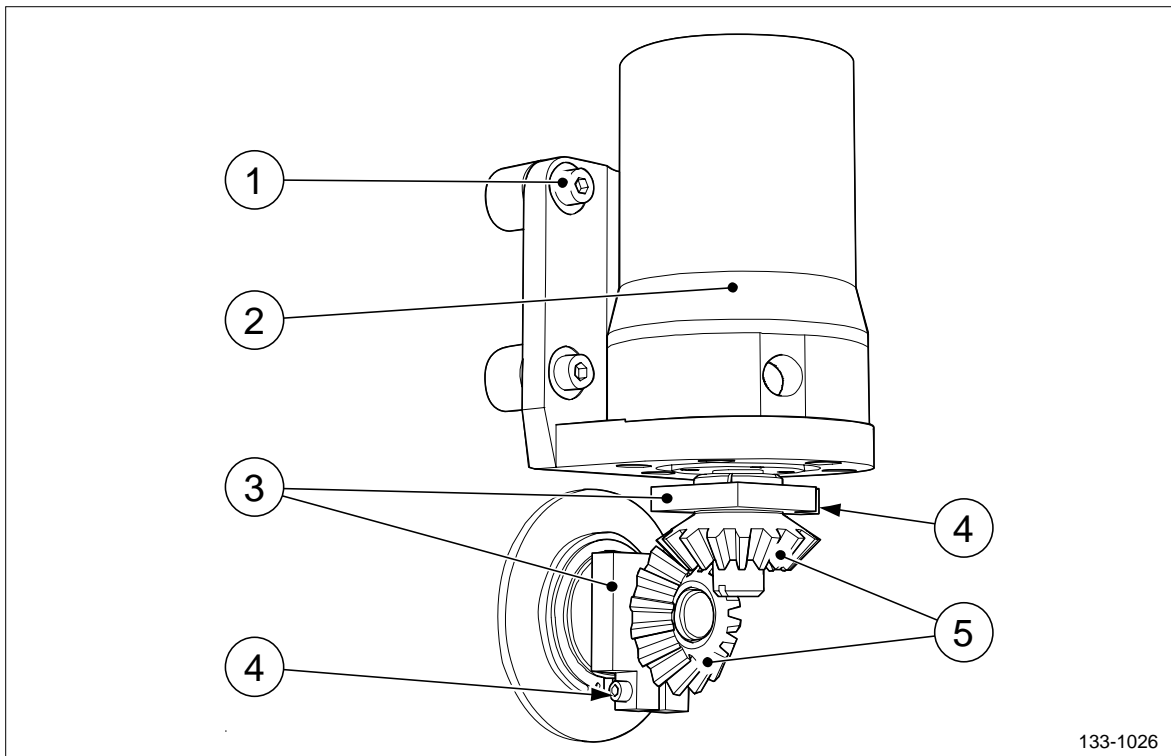

Figure 2 Feed-back unit.
4. Remove the protection bars (pos 1, figure 1). Make sure the screws (pos 1, figure 2), which secures the feed-back unit to the OD-box, are properly tightened. Tighten if necessary.
5. Make sure the screws (pos 1, figure 2), which secures the feed-back unit to the OD-box, are properly tightened. Tighten if necessary.
6. Make sure the set screws (pos 4, figure 2) on the clamps (pos 3, figure 2), which secures the conical tooth wheels on the shafts, are properly tightened. Tighten if necessary.
7. Clean the conical tooth wheels (pos 5, figure 2) with linen rags. Make sure that the backlash between the conical tooth wheels is as little as possible. If any damages or remarks are found, please contact Rolls-Royce Marine Global Support Network for further assistance.